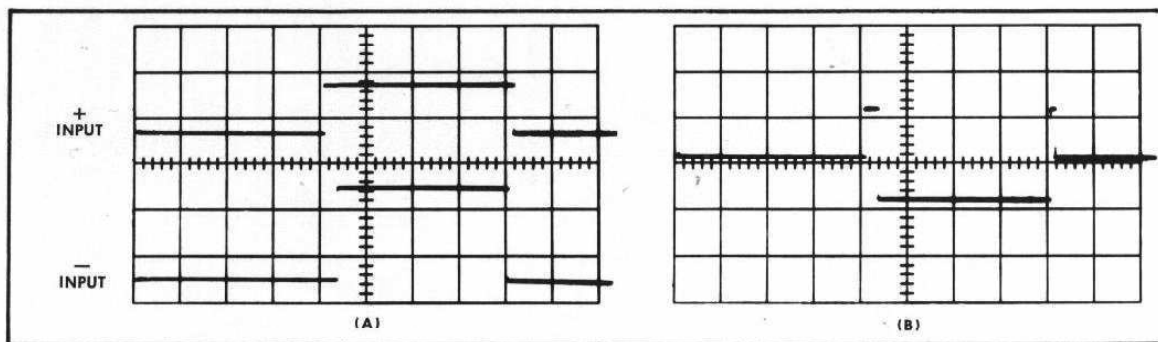

Fig 2-3. (A) Upper signal applied to + Input and lower signal applied to the - Input. (B) The resultant difference waveform seen on CRT.
4. If the two signals are out of phase and of different amplitude the output signal is a complex quantity derived from both amplitude and phase differences. See Fig. 2-3.